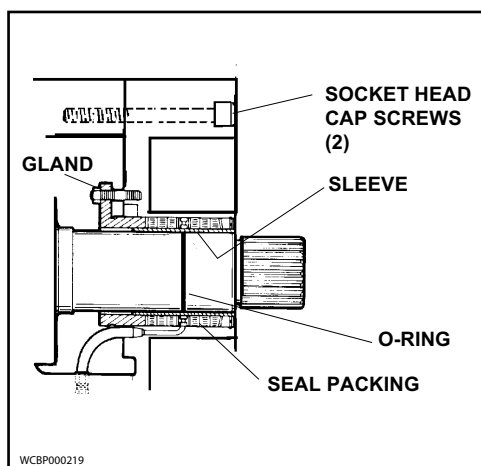

Figure 91 - Mount body
3. Mount body (with packing material) onto shafts and secure to bearing gear case with two socket head cap screws, as shown in Figure 91.